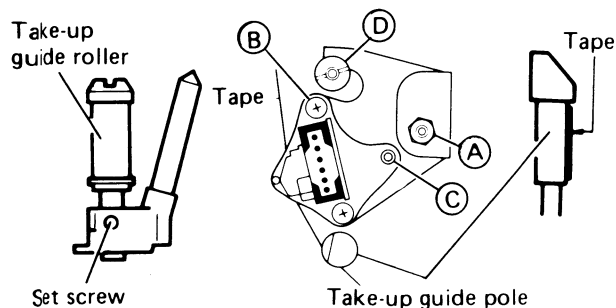

Fig. 20 Take-up guide pole
2. If the tape separates from the guide or wrinkling occurs at the take-up guide pole, adjust by turning screw (C) of the audio/control head as shown in Fig. 20.
2. If the tape separates from the take-up guide pole or wrinkling occurs, screw (C) (Fig. 20) has been turned excessively with respect to nut (A) and screw (B) causing the audio/control head to incline forward or rearward. Use care to adjust screws (B), (C) and nut (A) evenly and observe that small wrinkles are not produced at the take-up guide pole.
③ Interchangeability fine adjustment
7. Loosen tracking adjustment nut ① (Fig. 20) and slide the A/C head assembly fully to the direction of the take-up guide pole.
9. Set the A/C head assembly to the position where first maximum FM level is obtained. Put screw locking glue on the nut ① (Fig. 20).
⑨ Final checks